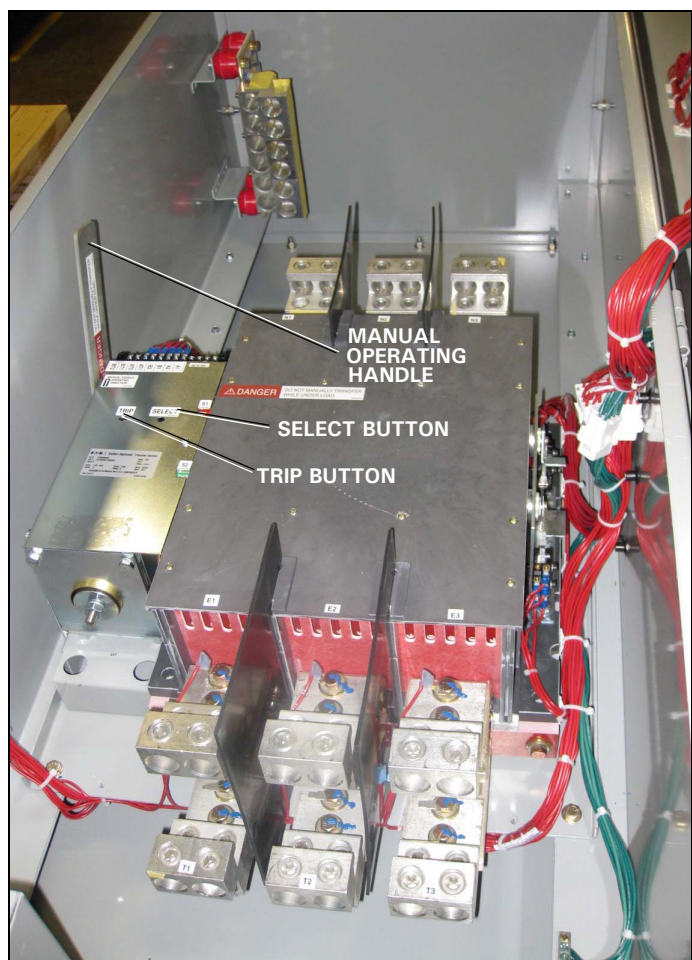

Figure 20. Troubleshooting Manual Operation of the Transfer Switch
Step 3: Attach the handle to the manual lever (see Figure 20) and rotate the lever up to go to Source 1.